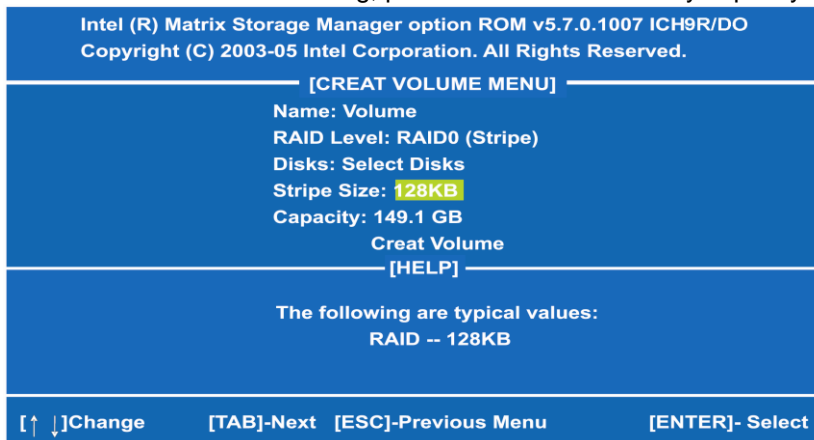

Figure 6
- (3)-4 Set the stripe block size (as Figure 6). The KB is the standard unit of stripe block size. The stripe block size can be 4KB to 128KB. After the setting, press ENTER for the array capacity.